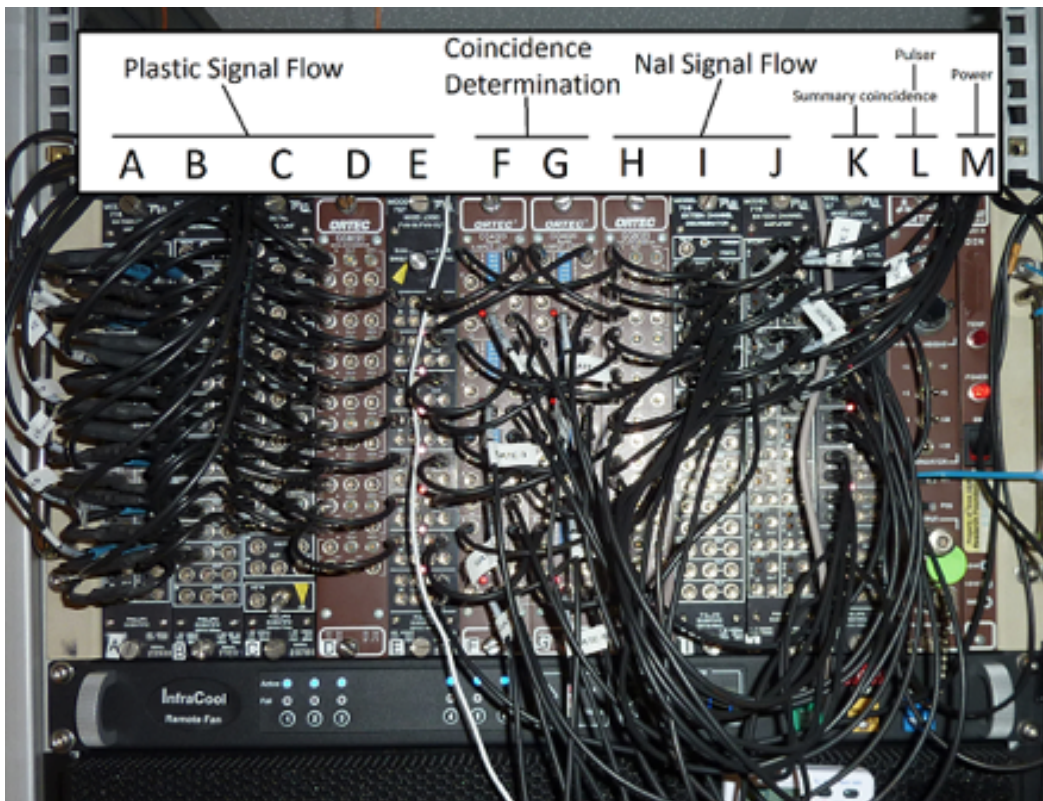

Figure 5. Coincidence Logic NIM Bin
The coincidence logic NIM bin (left side) consists of the plastic signal flow units (Fig. 5, A through E), coincidence determination units (F and G), NaI(Tl) signal flow units (H through J), a summary coincidence unit (K), and an ORTEC 480 pulser. For a detailed description of the electronics bin, please see the NGR logger academy MS Power Point presentation.